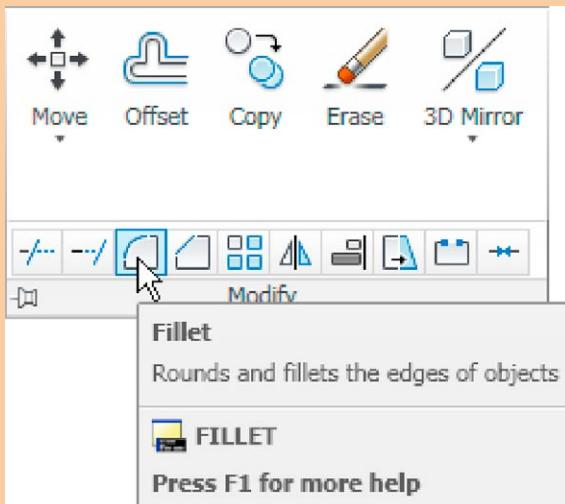

Fig. 12.31 The **Fillet** tool icon in the **Home/Modify** panel
5. Click the **Fillet** tool icon in the **Home/Modify** panel (Fig. 12.31).